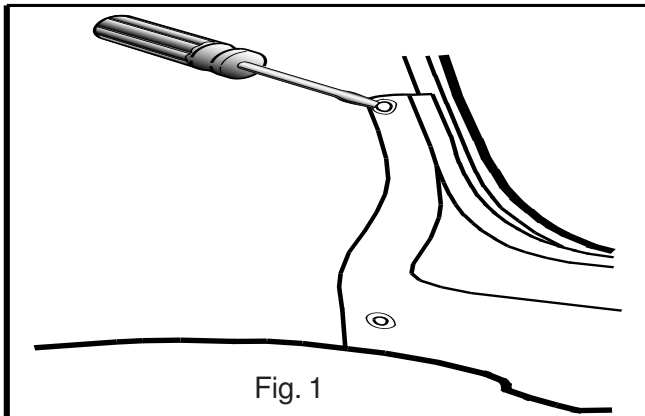

Fig. 1
3. Using a small screwdriver, remove the plastic fasteners by prying out the center. (Fig. 1)